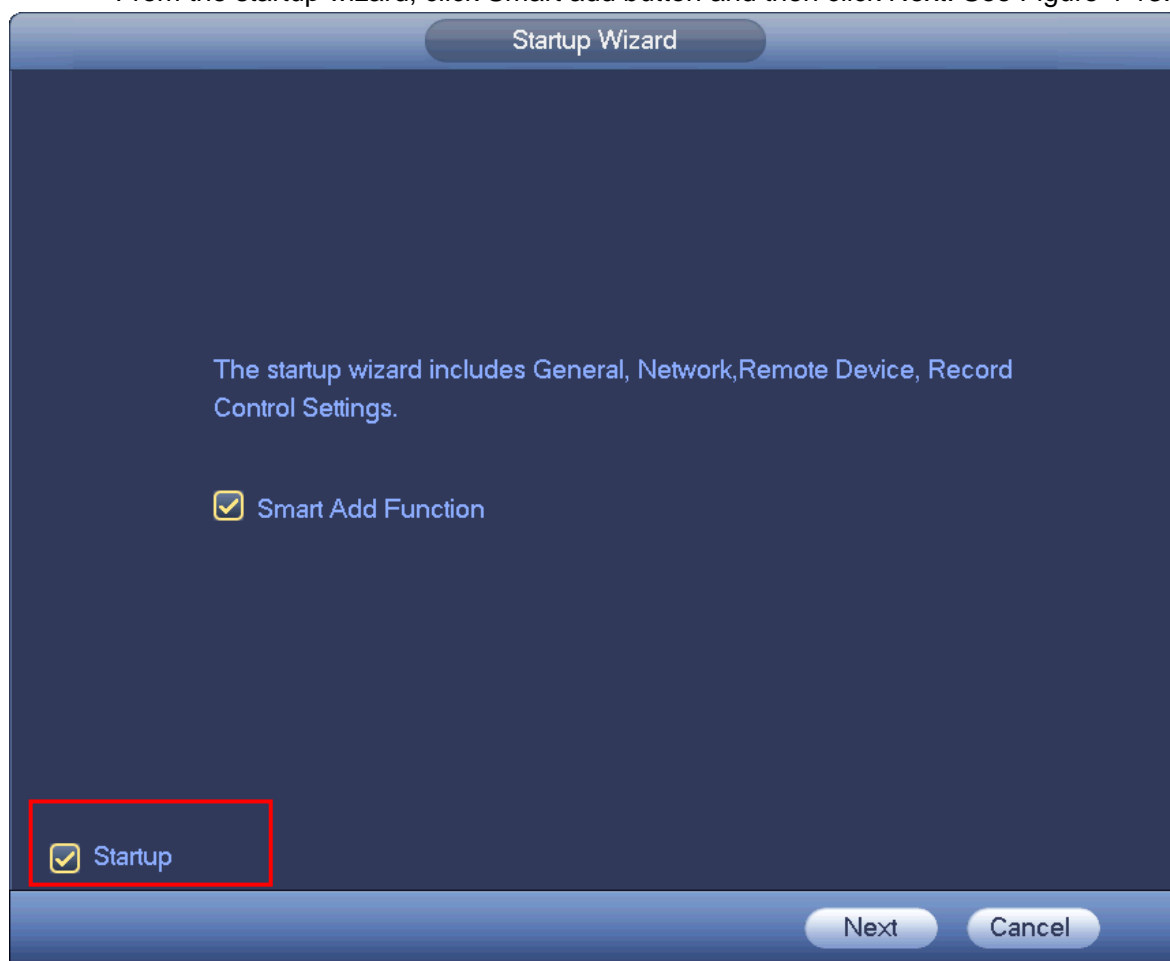

Figure 4-13
- From the startup wizard, click Smart add button and then click Next. See Figure 4-13.